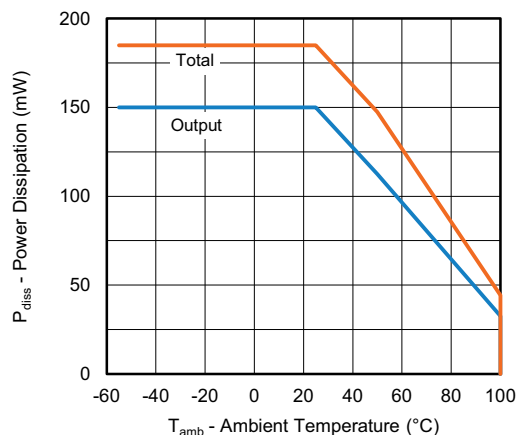

Fig. 2 - Power Dissipation vs. Ambient Temperature
- (1) Common mode transient immunity in logic high level is the maximum tolerable (positive) dV_{cm}/dt on the leading edge of the common mode pulse, V_{CM} , to assure that the output will remain in a logic high state (i.e. $V_O > 2 \text{ V}$) common mode transient immunity in logic low level is the maximum tolerable (negative) dV_{cm}/dt on the trailing edge of the common mode pulse signal, V_{CM} , to assure that the output will remain in a logic low state (i.e. $V_O < 0.8 \text{ V}$)
- (2) In applications where dv/dt may exceed 50 000 V/ μ s (such as state discharge) a series resistor, R_{CC} should be included to protect I_C from destructively high surge currents. The recommended value is refer to Fig. 2.